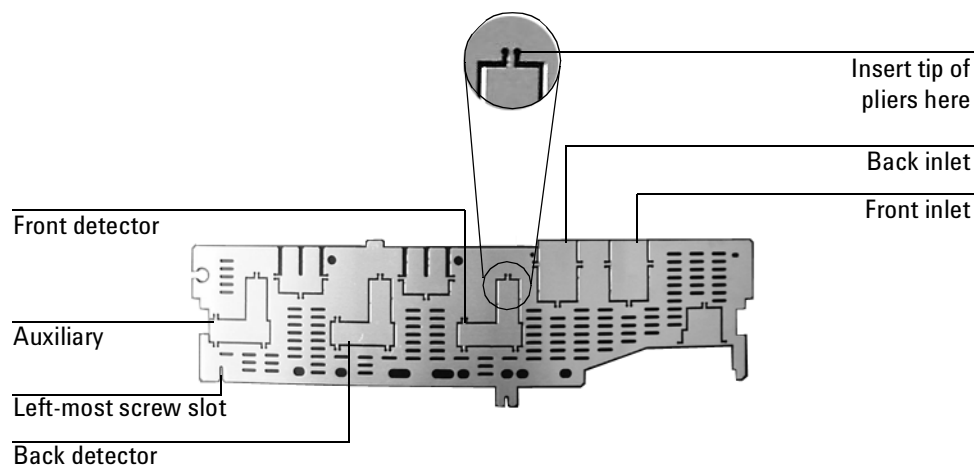

Figure 4. Top rear panel cutouts
If your current top rear panel is not similar to the one shown in Figure 4, discard it and use the new one supplied with your accessory kit.
- Using a pair of needle-nosed pliers, remove the appropriate top rear panel detector cutout for the NPD. Also remove any cutouts needed to access other manifolds or accessories installed in the GC. See Figure 4.